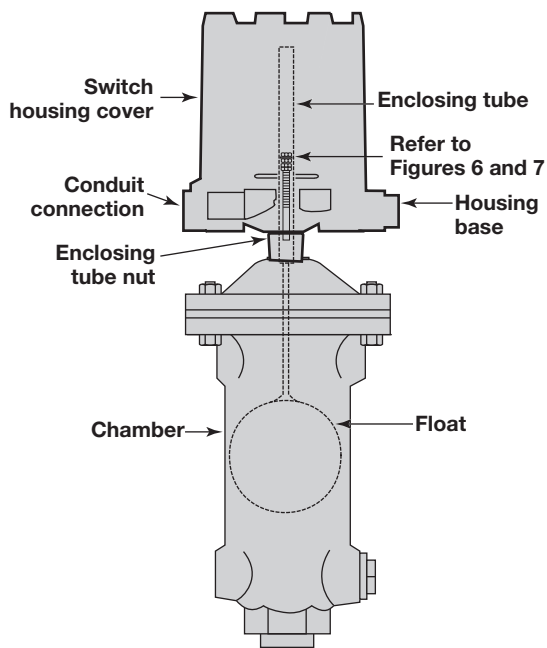

Figure 9
4. Disconnect power supply wires from switch mechanism. Pull wires out of conduit connection opening in housing base. Refer to Figure 9 on page 10.
8. Loosen enclosing tube nut with a  $\frac{1}{16}$ " wrench. Unscrew enclosing tube counterclockwise (switch and housing base will rotate also), until it is free. Refer to Figure 9 on page 10.